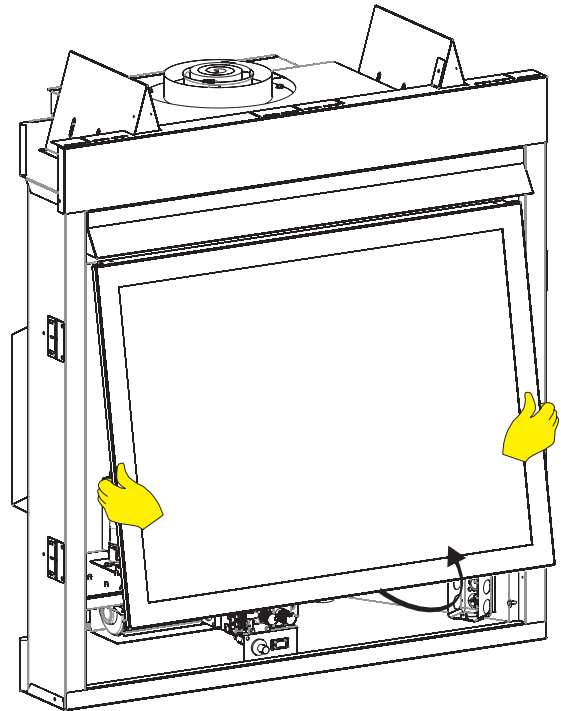

Figure 77
5. Move your hands to the sides of the glass frame and lift it up and away from the fireplace. See Figure 77.